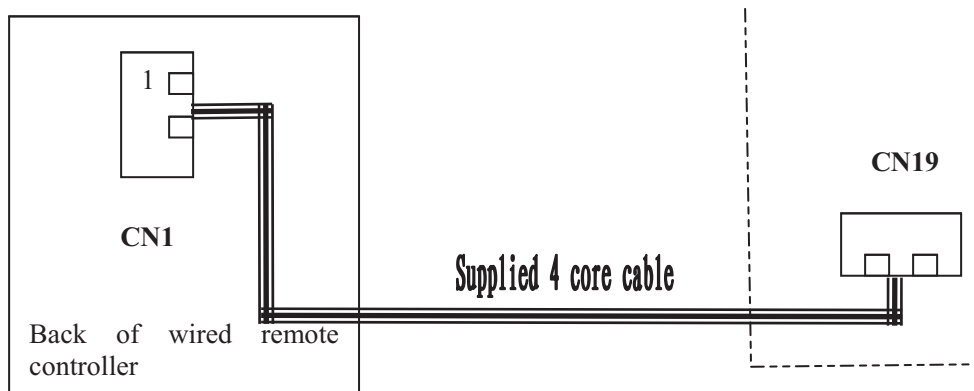

Fig.9 Power/communication Wiring illustration of wired remote controller
When connect wired controller to main board showed as Fig.9, use a 4 cores cable to set up a communication wiring from CN19 terminal on the main board to CN1 terminal on the wire controller. Make sure the power is shut off before the wiring; check if the wiring is firmly and prevent any circuit shortage after finishing this step one more time. There are 4 pieces of wires in the cable of controller. (all included in the 4 cores cable), count from upper right direction of wiring terminal are the name of the wires: Earthed wire (GND), communication wire A (A), communication B (B), power wire (+12V)